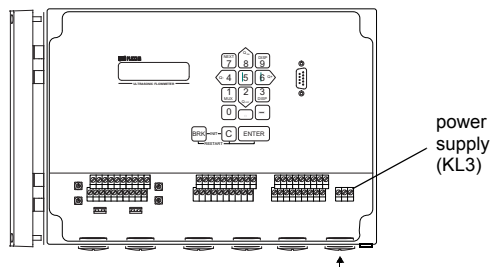

Fig. 5.14: Connection of the power supply.
- Remove the right blind plug for the connection of the power supply (see Fig. 5.14).
- Insert the power cable into the housing (see Fig. 5.14).
- Connect the leads to the terminals of terminal strip KL3 (see Fig. 5.14 and Table 5.11).